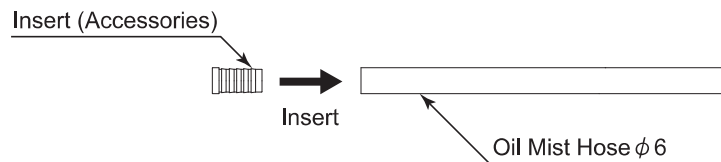

Fig. 15
- (1) Press the insert (Accessories) into the Oil Mist Hose ($\phi 6$: not included / prepared by the end-user) (Fig. 15).